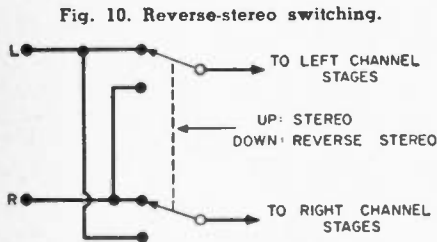

Fig. 10. Reverse-stereo switching.
1. *Reverse Stereo*: This permits the left signal to be fed to the right channel and the right signal to the left channel, as shown in Fig. 10. While accidental reversal of channels on commercial discs and tapes can be expected to drop to zero, there is as yet no stand-